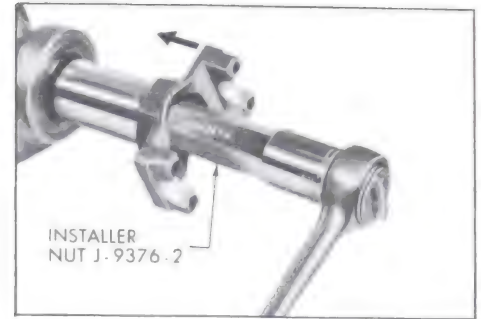

Figure 4-111—Installing Front Companion Flange
45. Install front companion flange. See Figure 4-111.